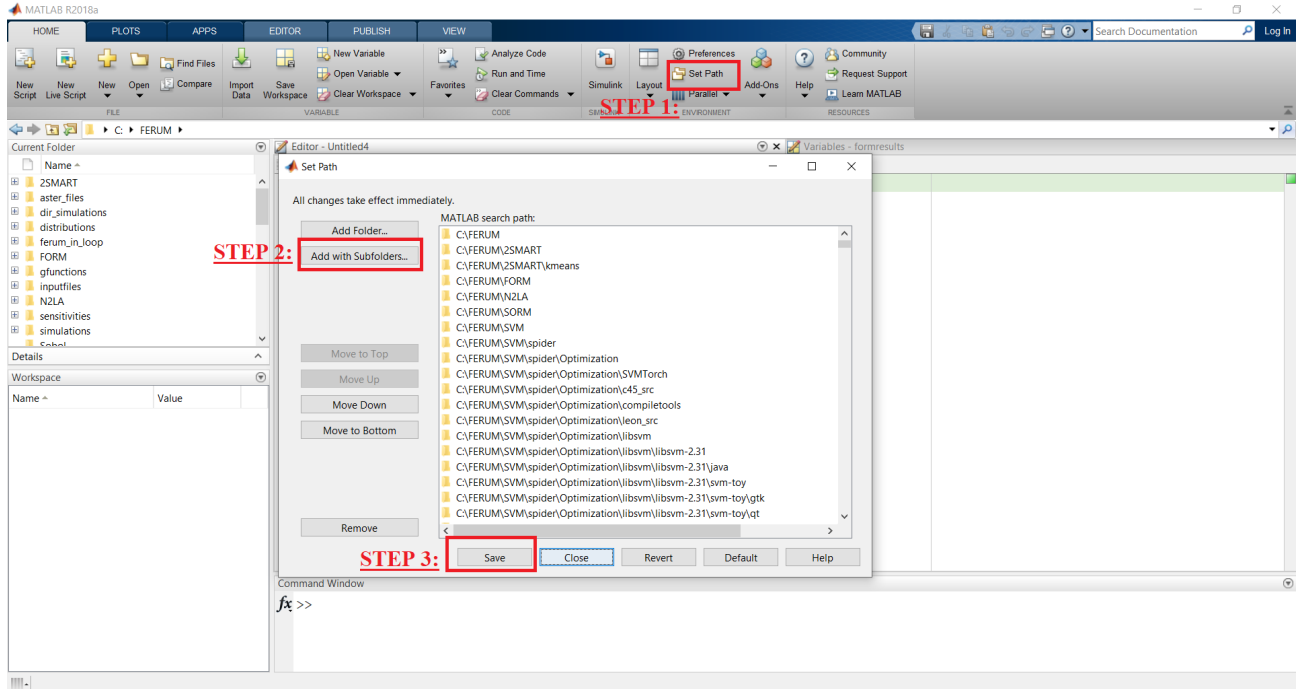

Figure 1: Add FERUM codes to Matlab Search Path
- The directories will be shown in the pop window (see Figure 1) and click “Save”.